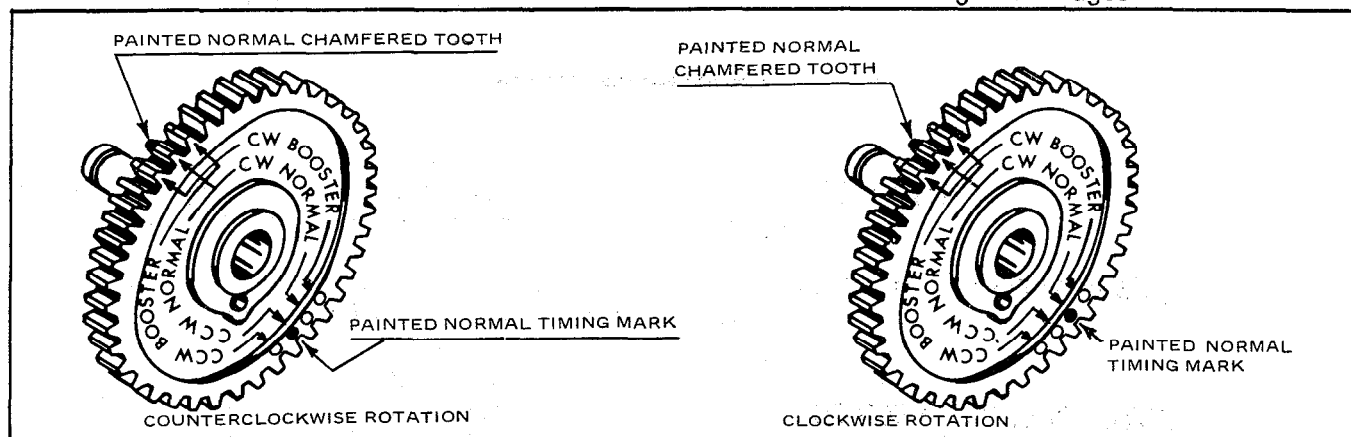
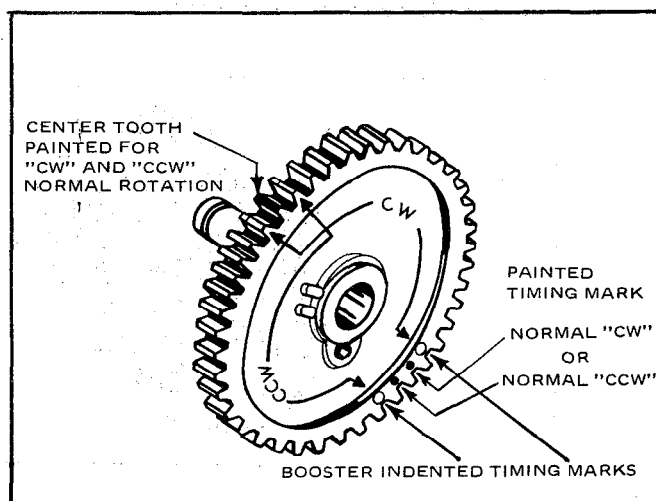

Figure 2. Modified 6 Cylinder Gears P/N 10-157197
Figure 4. Present Production Distributor Gear Assembly with Additional Timing Marks Painted
- Locate normal timing tooth between CW and CCW booster chamfered teeth and paint this tooth and the applicable inner timing mark with red Dykem or red lacquer in accordance with figure 2 or figure 4 for appropriate gear.
- Locate normal timing tooth between CW and CCW booster chamfered teeth and paint this tooth and the applicable inner timing mark with red Dykem or red lacquer in accordance with figure 4.
Dykem or red lacquer as illustrated in figure 4.